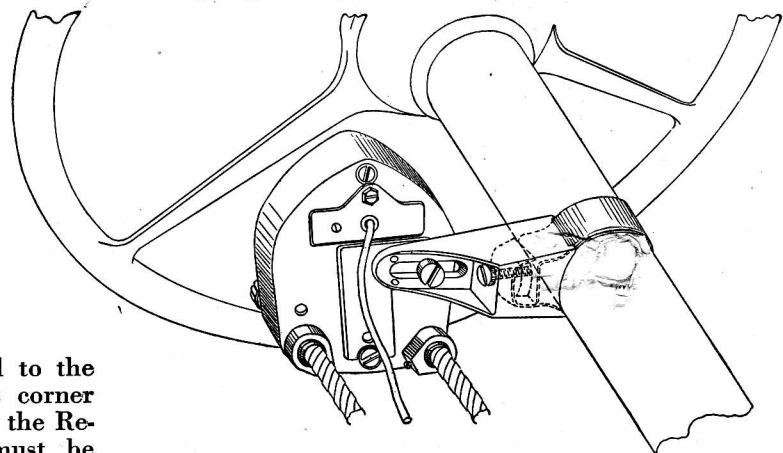

FIG. 2
**CONTROL UNIT**—Mount the control unit on the steering column. Fig. 2 shows only a right-hand installation. The control can be installed on the right, or, using the extra hole provided, on the left or above the steering column. The clamp strap must be formed around the steering column and a hole reamed out for the clamp screw. Follow the details shown in Fig. 2 for attaching the mounting bracket and the control unit. The felt strip must be placed next to the steering column under the clamp strap so that the finish will not be marred.